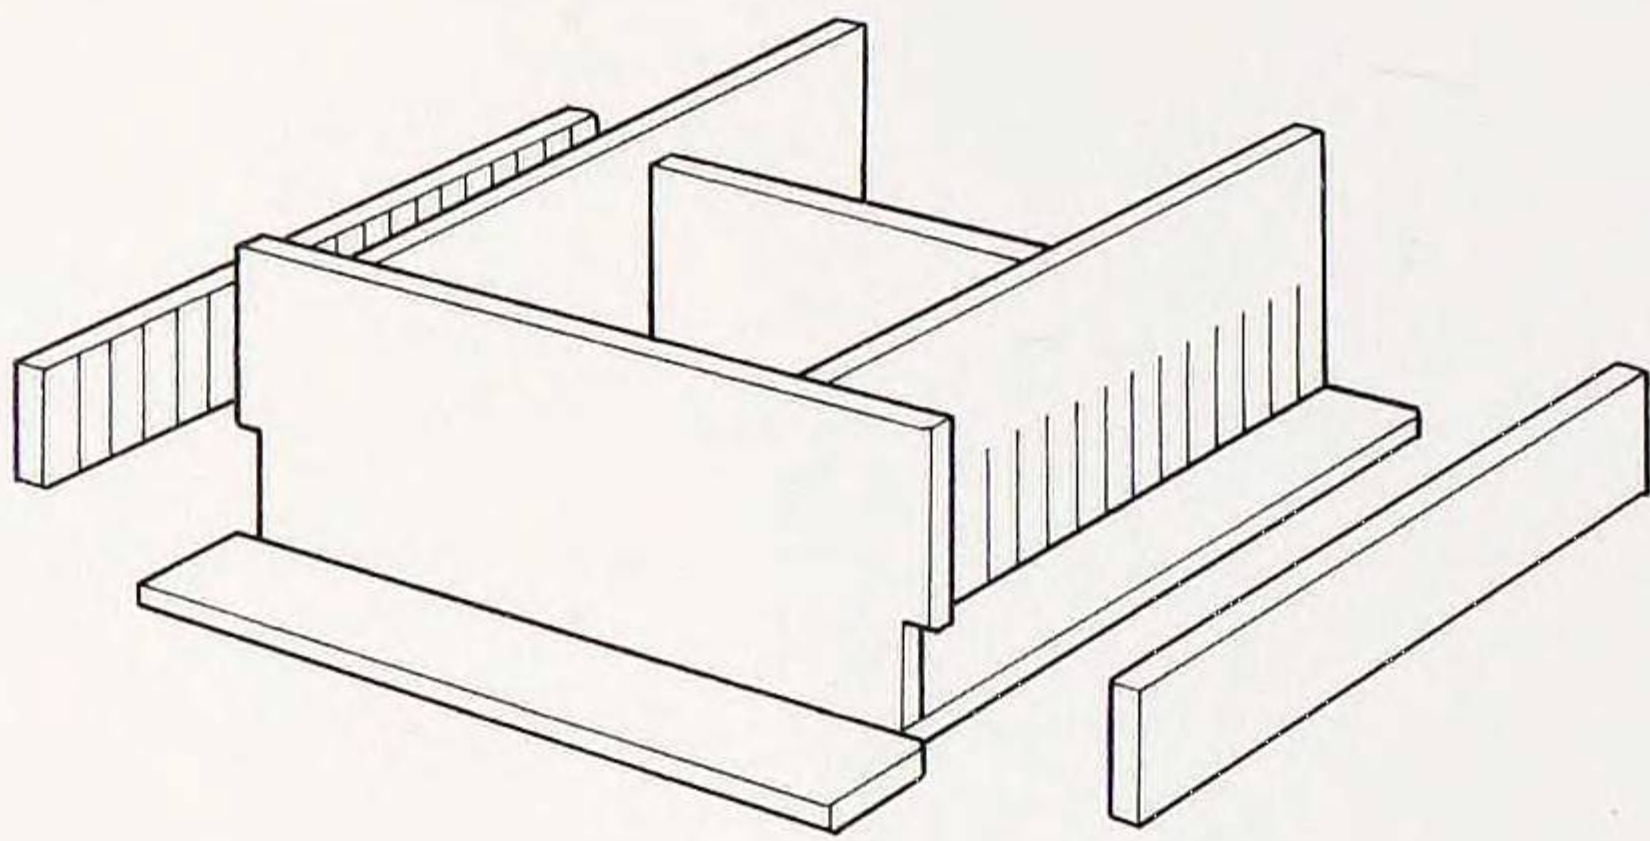

Fig. 3 Applying the cabinet bottom and the rear external sides
4. Once you have glued the first stage and the glue has cured, you can apply the cabinet bottom and the rear external sides (Fig. 3 overleaf).